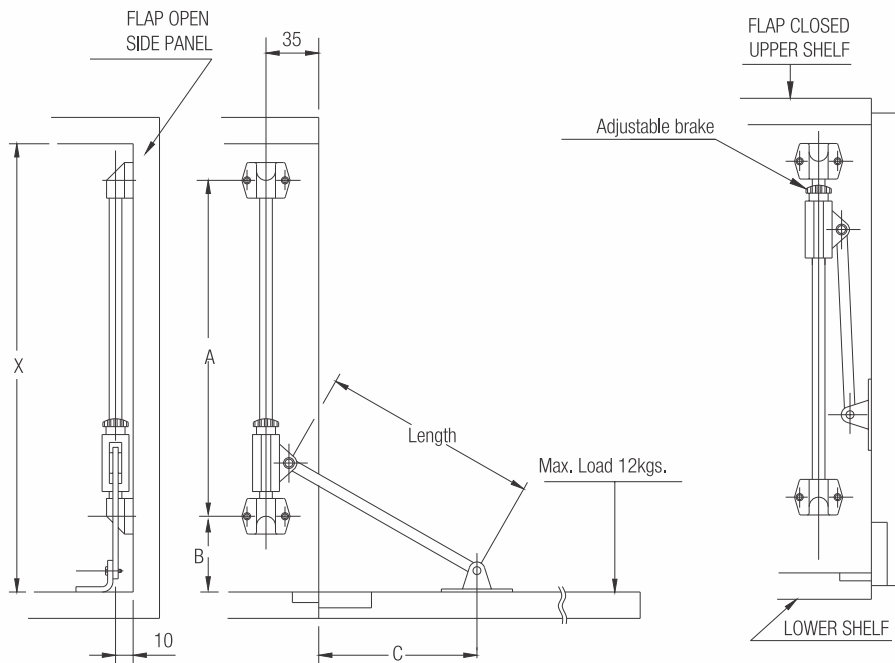

Fig.1
1. Fit the Stay as shown in fig.1.